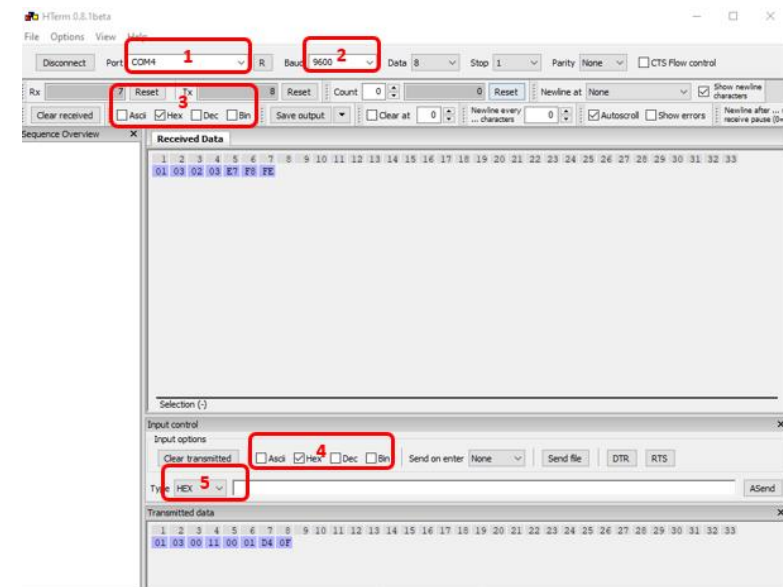

Fig.6 HTerm Parameter Interface
- 6) Open the terminal program HTerm and set the parameters as the following Fig. 6.